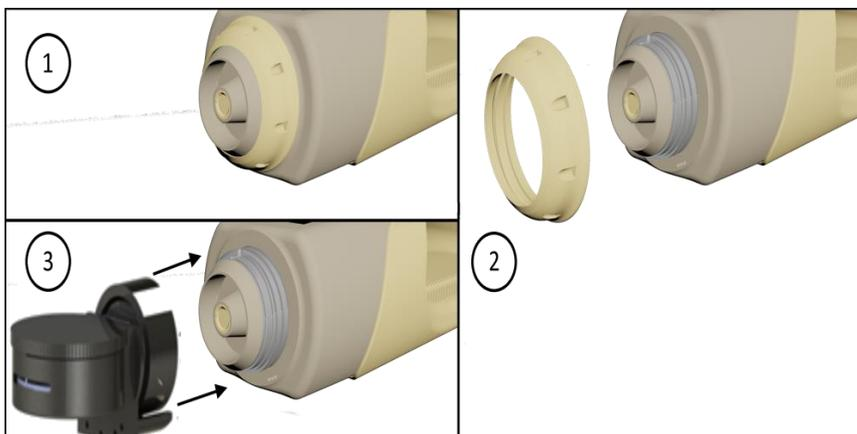

Figure 23. Desorber connection procedure
- unscrew decorative cap counter-clockwise as shown in Figure 23;